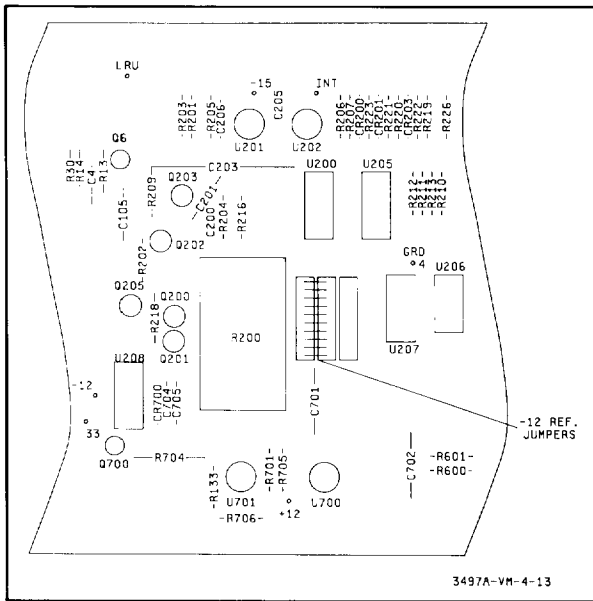
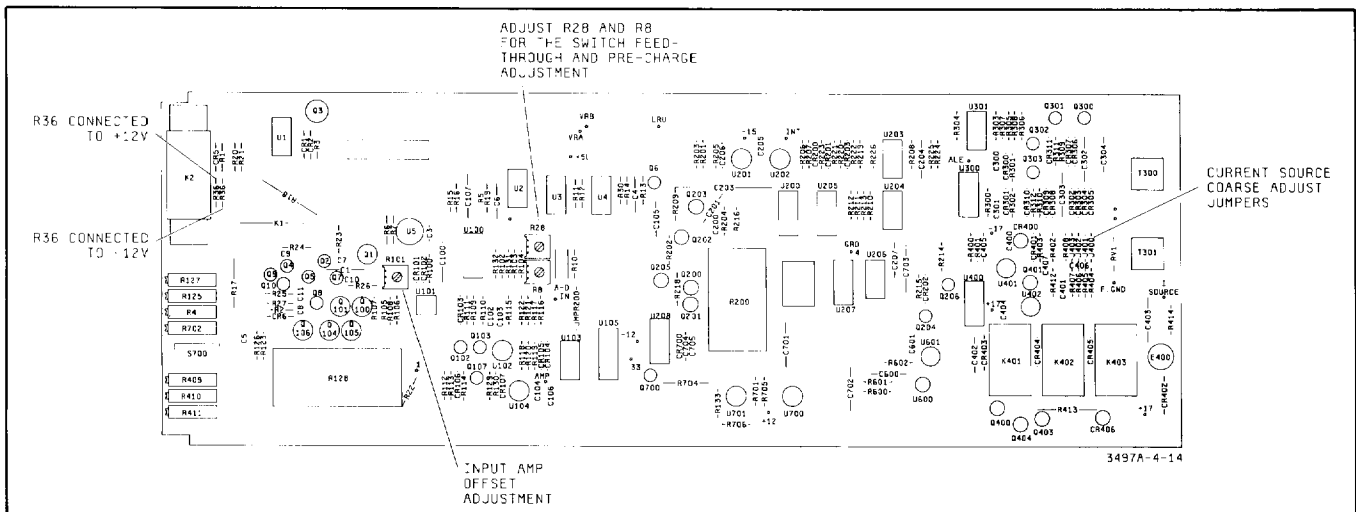

Figure 4-13. Reference Jumpers
Figure 4-14. Miscellaneous Voltmeter Option Adjustment Locations
- a. Locate the -12V Reference Jumpers (J700 to J707; see Figure 4-14). Place all jumpers to the left, as shown in Figure 4-13. Set switch S700 to position "6" and adjust pot R702 to its counter-clockwise position. (Refer to Figure 4-14 to determine the location of S700 and R702 on the voltmeter option board.)
- a. Refer to Figure 4-14 and locate R36. If there is no R36 mounted on the voltmeter board, continue with the next step. If R36 is mounted on the board, remove it. If a soldering iron was used to remove R36, give enough time for the circuitry to stabilize. Then continue with the next step.
- 1. If the offset is negative, connect resistor R36 to the -12V position, as shown in Figure 4-14.
- 2. If the offset is positive, connect resistor R36 to the +12V position, as shown in Figure 4-14.
- a. Refer to Figure 4-14 and adjust R28 (Pre-charge adjust) to the center of its rotation.
- d. Refer to Figure 4-14 and adjust R8 until the voltmeter reading is 0.00000V. If any noise is noted, adjust R8 until the noise is centered around the zero volts reading.
- b. Connect the test Digital Voltmeter between TP A-D IN (see Figure 4-14) and the LO COM terminal.
- c. Refer to Figure 4-14 and adjust R101 for a $0V \pm 5$ microvolt reading on the test voltmeter.
a. Refer to Figure 4-14 and locate the four current source jumpers on the voltmeter board. Replace any jumpers that are missing.